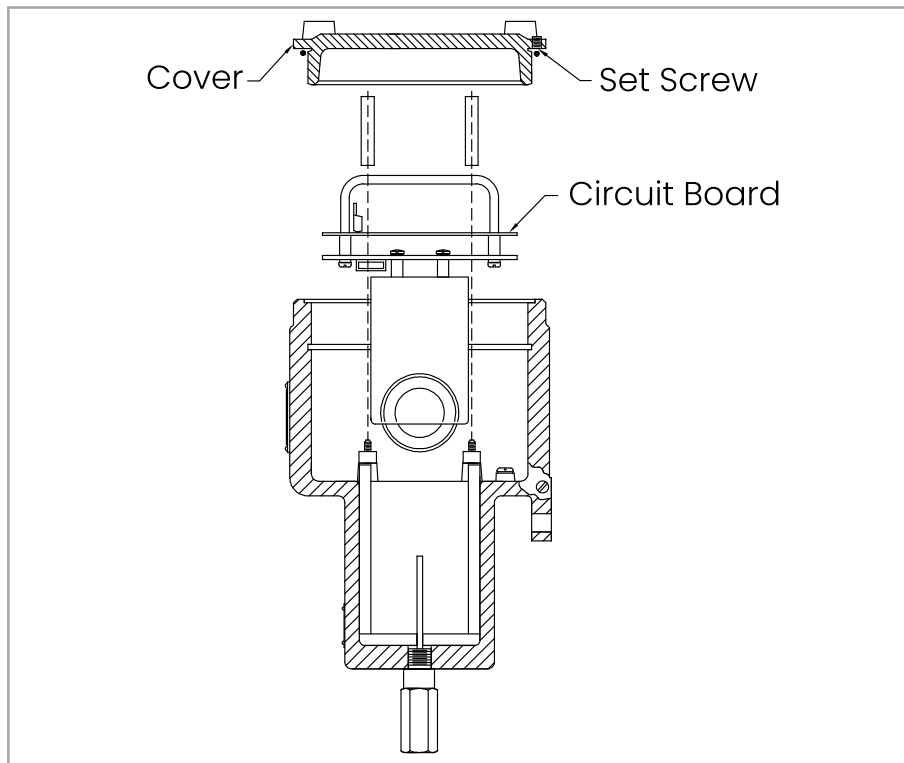
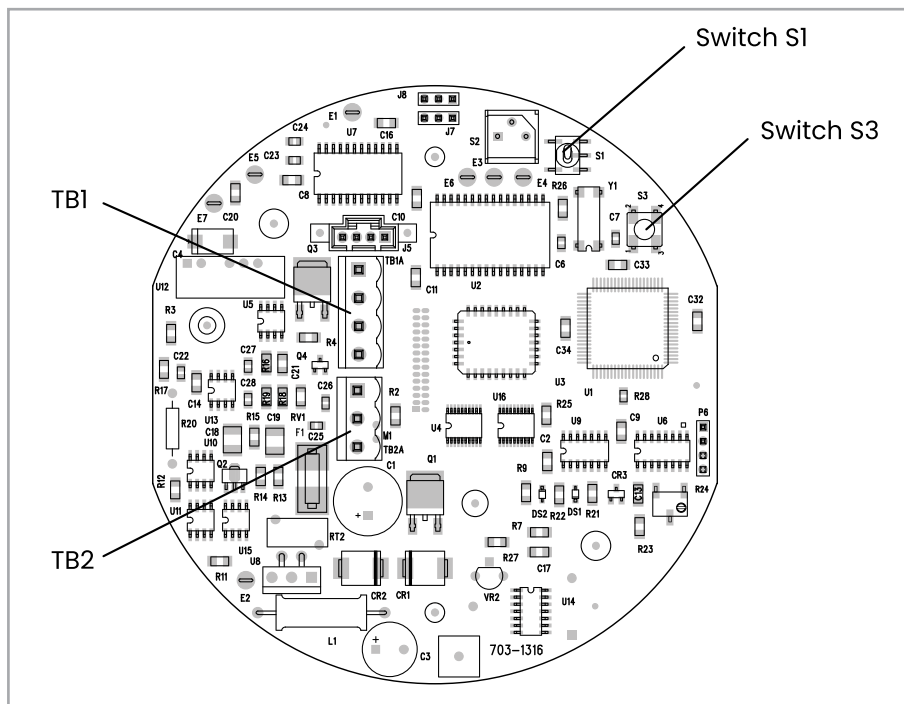

Figure 10: XMO2 Cover, set screw, and PCB
Figure 11: PCB calibration switches
To prepare the XMO2 for a field calibration, refer to *Figure 10* on *page 17* and perform the following preliminary steps:
3. Refer to *Figure 11* on *page 17*, and locate the following items:
Note: The XMO2 digital PCB (see Figure 11 below) is located directly below the cover (see Figure 10 above)
3. Using *Figure 11 on page 17* as a guide, locate the Calibration Pushbutton (Switch S3). Depress the Calibration Pushbutton and hold it down for 20 seconds. During this time, the green light below the Calibration Pushbutton will go out.
Using *Figure 11 on page 17* as a guide, locate the Zero/Span Selector (Switch S1). Set the Zero/Span Selector (Switch S1) to position "1" ("Zero").
Using *Figure 11 on page 17* as a guide, locate the Calibration Pushbutton (Switch S3). Depress the Calibration Pushbutton and hold it down for 20 seconds. During this time, the green light below the Calibration Pushbutton will go out.
2. Using Figure 11 on page 17 as a guide, locate the Zero/ Span Selector (Switch S1). Set the Zero/ Span Selector (Switch S1) to position "3" ("Span").
3. Using Figure 11 on page 17 as a guide, locate the Calibration Pushbutton (Switch S3). Depress the Calibration Pushbutton and hold it down for 20 seconds. During this time, the green light below the Calibration Pushbutton will go out.
To prepare for this calibration method, refer to *Figure 10* on page 17 and perform the following preliminary steps: